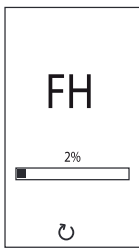

fig. 8 - Vent with fan on
- For the next 20 seconds the display will show FH which identifies the heating system air venting cycle with the fan running (fig. 8 - *Vent with fan on*).